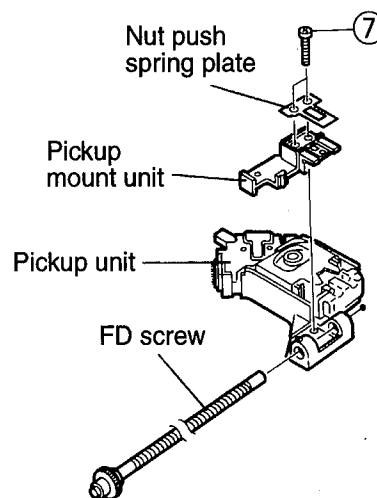

Fig.22
8. By removing the two screw ⑦ retaining the pickup unit, dismount the nut push spring plate and pickup mount nut (See Fig.22).
9. Remove the FD screw from the pickup unit (See Fig.22).